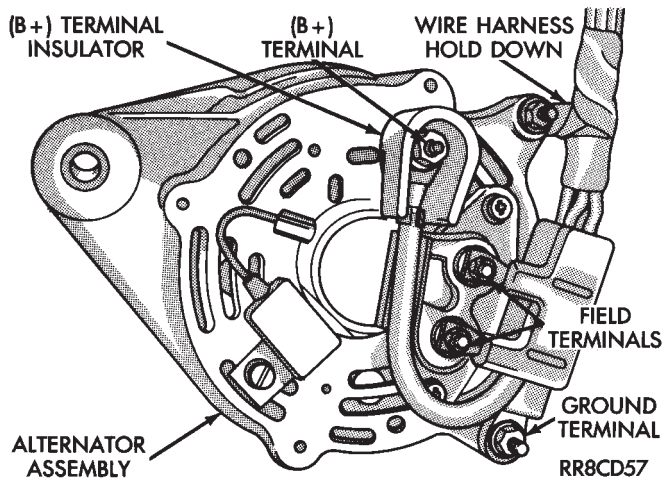

Fig. 4 Remove or Install Wire Connector Assembly—Bosch Alternator
- BOSCH ALTERNATOR. Remove B+ terminal nut, field terminal nuts, and ground harness hold down nuts (Fig. 4). Remove wire connector assembly.